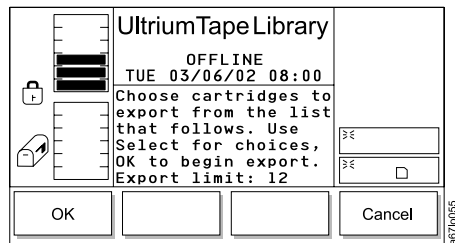

Figure 182. Export Dialog
3. Press the button below the **Export** softkey. The Export Dialog displays a message that describes the export procedure (see Figure 182 on page 153).